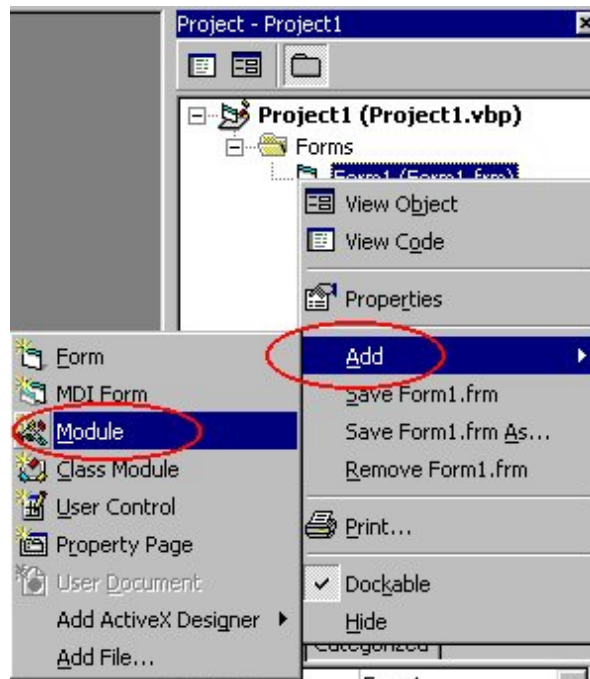

Figure 3-1-6. Adding Module
- Right mouse button click on the Project manager, and select “Add”/”Module”. Refer to Figure 3-1-6.